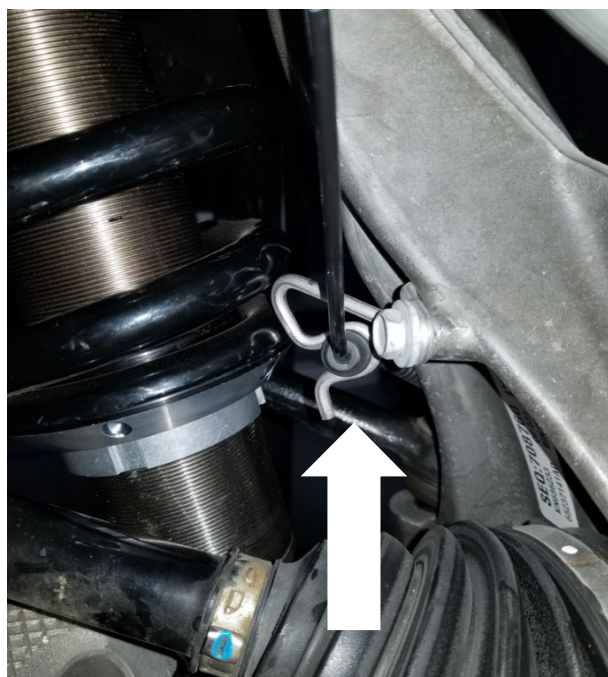

Figure 6. Passenger side front
- R. After installing the B8 6112 shocks onto the vehicle, locate the ABS mounting bracket on the vehicle. The OE ABS line brackets are different on both sides but they are located at the same location. See Figure 6 and 7 for reference.